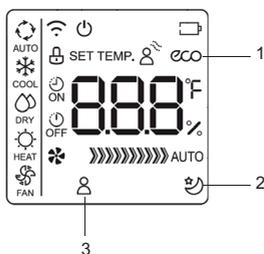

fig. 6 -
1. **ECO mode** (part. 1 "fig. 6 -") (the indoor unit display shows the "E-C-O" letters one by one, followed by the temperature setpoint). The "energy saving" mode is only available in COOL mode by pressing the "ECO" button. If the temperature setpoint is lower than 24°C, by activating the "ECO" mode the temperature setpoint is automatically set to 24°C and fan speed to "Auto" to save energy. If the temperature setpoint is higher than 24°C, by activating the "ECO" mode the temperature setpoint does not change and fan speed is set to "Auto". To stop the "ECO" mode, either press the "ECO" button, or choose another operation mode, or choose a temperature setpoint lower than 24°C
2. **SLEEP function** (part.2 "fig. 6 -"). Keep pressed the "ECO" button for 2 seconds to activate the "SLEEP" mode is indicated by the symbol on the display. The set point temperature will be increased (in cooling operation "COOL") or decreases (in hot operation "HEAT") 1 ° C at predetermined intervals to a maximum of 2 ° C. SLEEP function stops automatically after 8 hours and the unit will continue operation by keeping the last setpoint. The function is not available in "FAN" and "DRY" modes.
3. **FOLLOW ME function** (part.3 "fig. 6 -"). Activated in HEAT - AUTO - COOL mode operation. The remote control will send this signal to the air conditioner every 3 minutes interval until press the Follow Me button again. The air conditioner will cancel the Follow Me feature automatically if it does not receive the signal during any 7 minute interval.